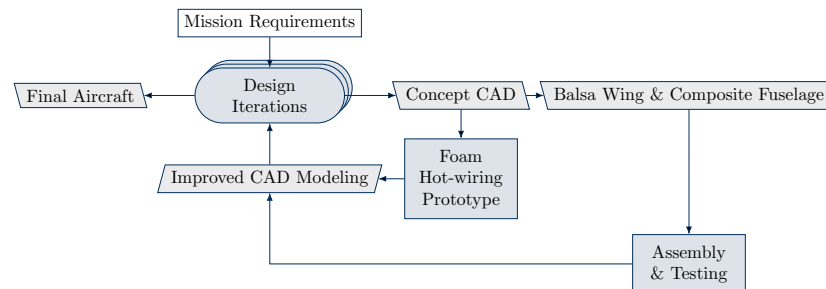

**Figure 6** Current sensor rig: winch on left, towed sensor assembly on right
**Payload:** We have already completed several design iterations for the towed sensor. We have used wind tunnel tests to explore various tow lines and tow locations along the sensor. In upcoming design iterations we will explore increasing the drag at the back of the sensor, similar to towed radar decoys used by military jets. An image of our current design is shown in figure 6.